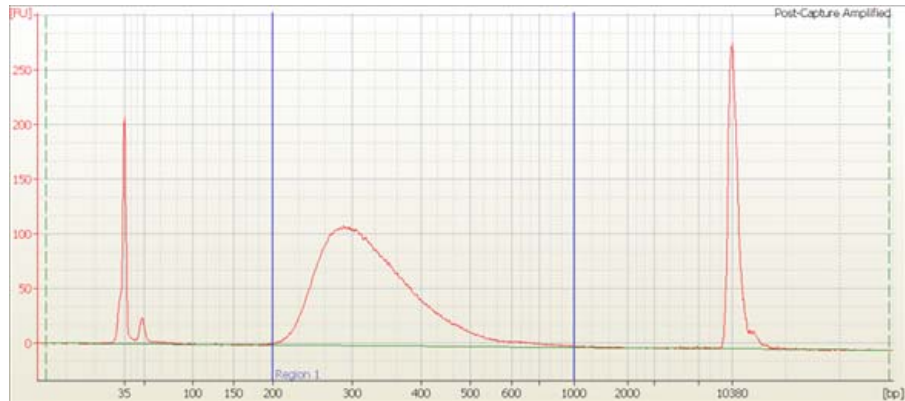

Figure 6 Analysis of amplified captured DNA using the High Sensitivity DNA Assay.
- 4 Verify that the electropherogram shows a distribution with a fragment size peak between approximately 275 to 300 bp. A sample electropherogram is shown in Figure 6.